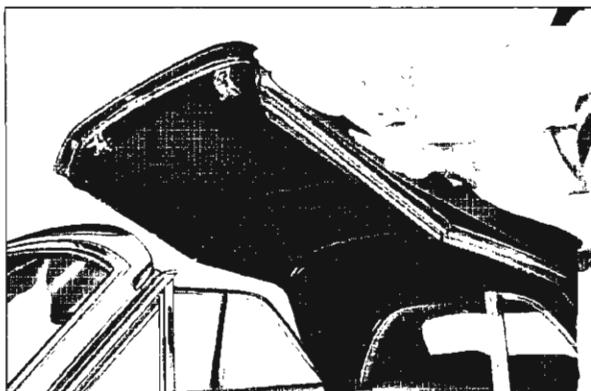

Fig. 21-18 Pressing Down on Top
- C. When top is approximately 12 inches away from windshield header, place hands on top assembly as shown in Fig. 21-18 and press down on top until guide studs on lock assembly engage striker holes.